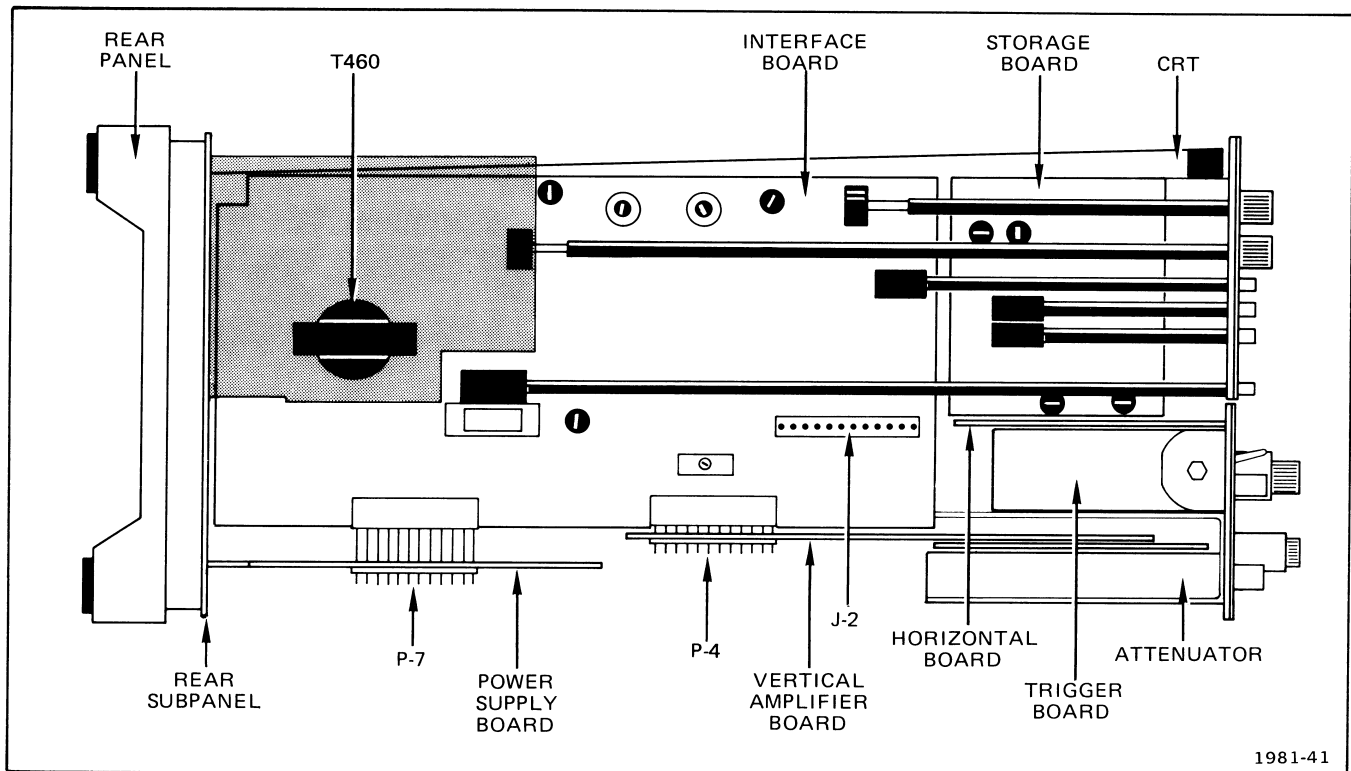

Fig. 5-8. Circuit board locations.
2. Disconnect P4 (see Fig. 5-8) from J4 on the Interface board by lifting the entire vertical amplifier. Be careful not to bend the pins.
4. Remove P2 (see Fig. 5-8) from J2 on the Interface board by pulling the entire Time Base toward the right side of the instrument. Be careful not to bend the pins.
3. Unplug P784 and P720. Disconnect P7 from J7 on the Interface board by lifting the Power Supply board and transformer out. (See Fig. 5-8.)